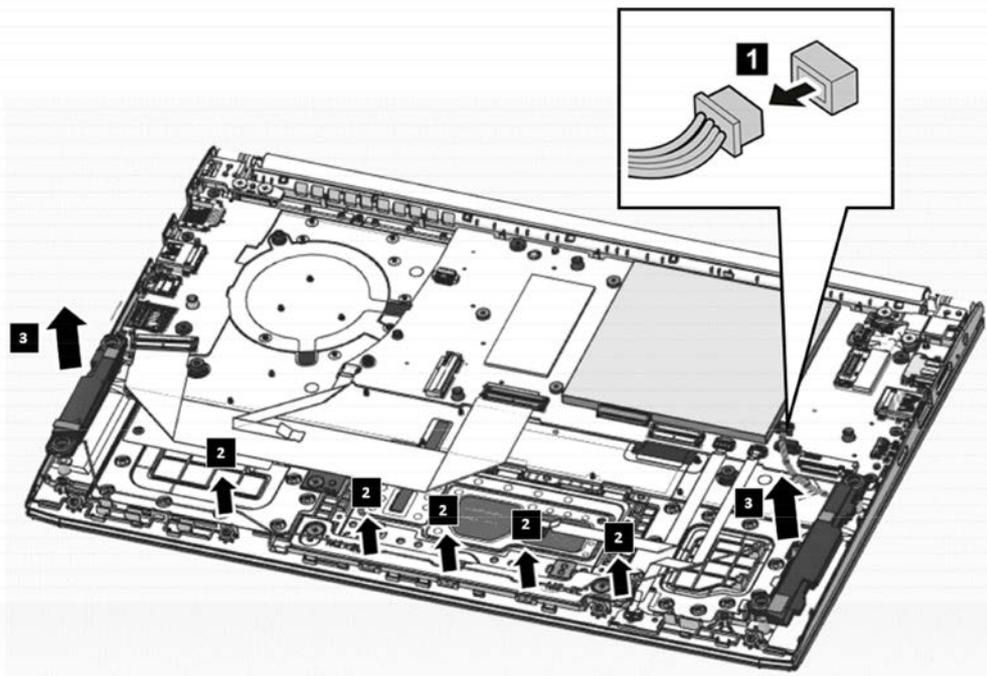

Figure 4-8 Removing the Speakers
Remove the speaker assembly according to the following procedures and Figure 4-8.
,3 as shown in Figure 4-8.
3. Connect the speaker cable to the motherboard ,1 as shown in Figure 4-8.